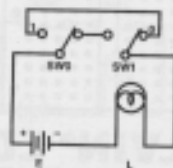

Fig. 23, Electrical Circuit Comparison
**Procedure - Refer to Figures 23, 24 and 25 for the following instructions.**